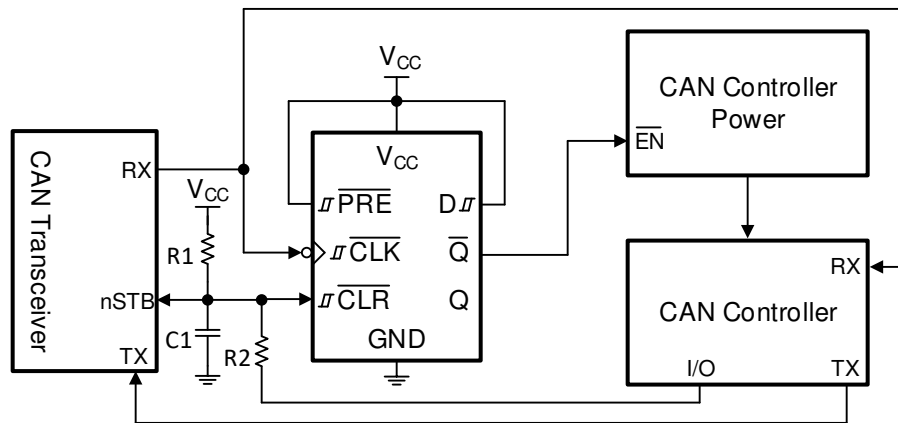

图 12. Power Enable Using CAN Wake-up Request
With the SN74HCS72, a power on reset circuit only requires a resistor (R) and capacitor (C) to create a delay. The R and C values create a delay that is approximately $2.2 \times RC$. In this application, it is desired to have the output (\bar{Q}) in the HIGH state at startup, so R1 and C1 are connected directly to the CLR pin, as shown in 图 12. A second resistor is needed to limit the current into the CAN controller when it sets the circuit back into standby mode. It is required for the R1 resistor to be at least ten times larger than R2 to avoid a divider circuit ($R2 \leq 10R1$).